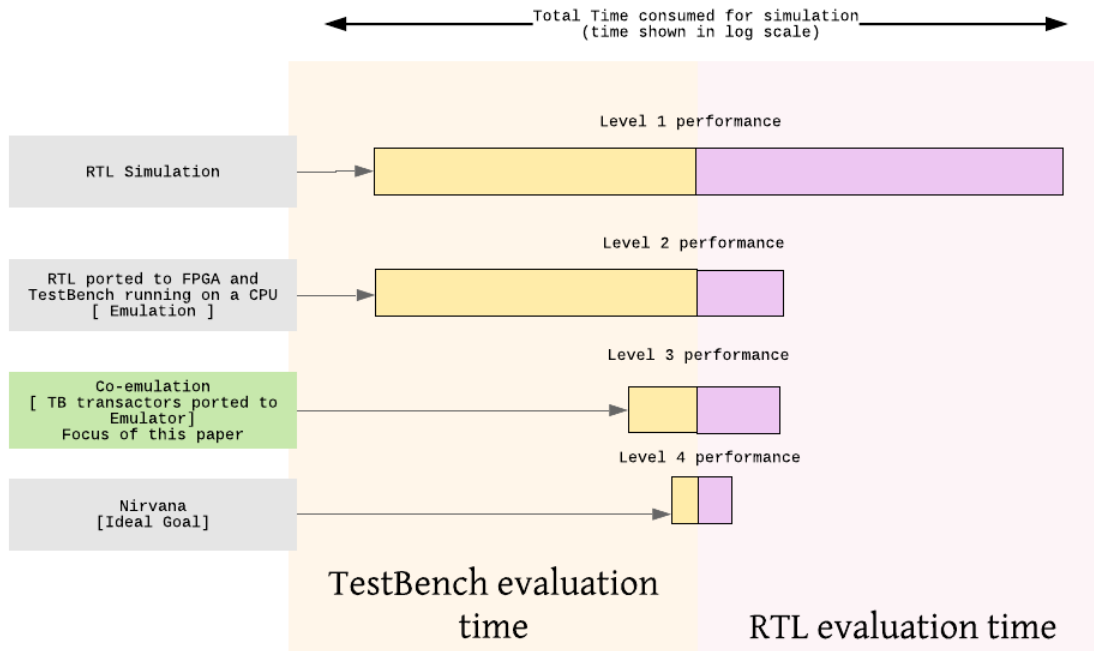

Figure 1: Reaching the TB speedup promise land
With proper planning and effort, Emulators can help speed up runtimes in the order of 5x-1000x or more compared to CPU based RTL simulation (Level 1 performance in Fig1) .
In Figure 1, we show the time consumed by TB and RTL at various performance levels and how it compares to the ideal goal the industry is aiming for. This paper discusses optimizations to get closer to the ideal goal.
- Reproduced ‘wedges’: ‘Wedges’ are tests where several things have to happen together and can take some time to reach a triggering state. These kind of scenarios are typically hard to hit or find at level 1 performance (ref Figure 1: Reaching the TB speedup promise land).